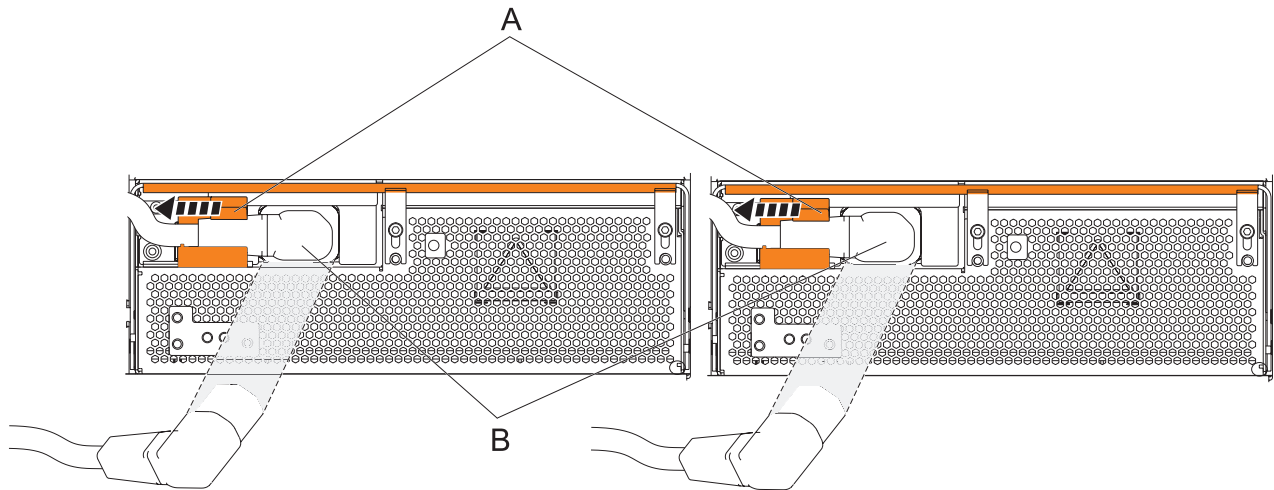

Figure 65. Disconnecting the OCA power cords
- a. Slide the power cord holders **(A)** to the left, located on the front of both the OCAs. See Figure 65 on page 84.